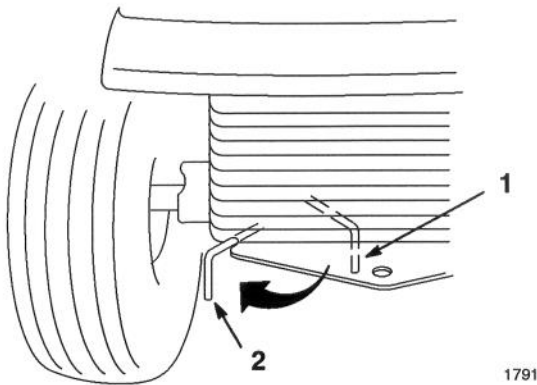

Figure 7
2. Place the drive control, under rear frame, to the "Push" position (Fig. 7).
3. Run engine at a low idle and move traction control pedal forward for five (5) seconds then reverse for five (5) seconds. Repeat three (3) times.
4. Place the drive control in the "Operate" position (Fig. 7). Drive the tractor forward then reverse approximately five (5) feet. Repeat three (3) times.